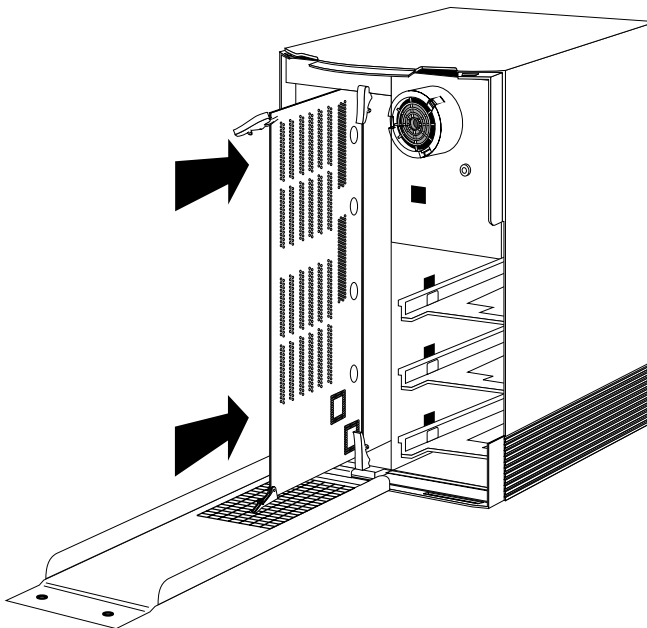

Figure 11 Installing the CPU Board
1. Position the CPU board for installation (Figure 11)
2. Slide the board all the way into the Indigo chassis (See Figure 11).